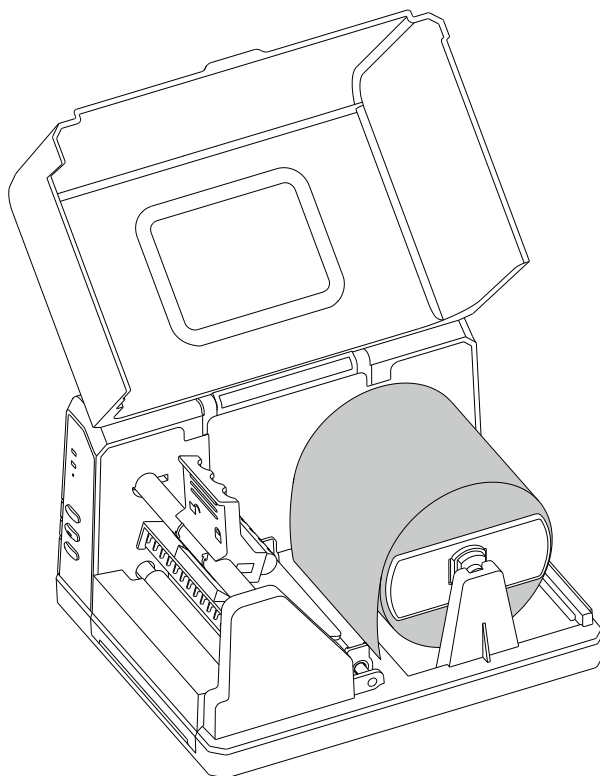

Figure 2-6 Load the Media
4. Position the media roll in the middle of the Spindle, using the ruler on the Media Spindle for alignment. See Figure 2-6.